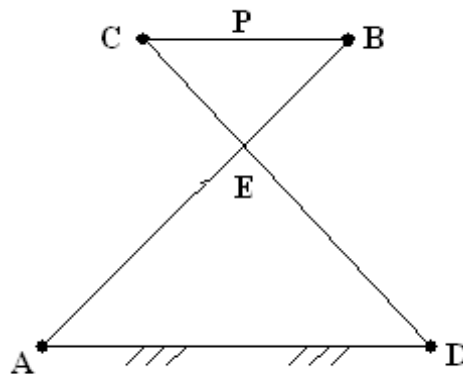

Figure 5
5. Show that for Tchebicheff's straight-line motion shown in figure 5, the point P that bisects the link BC will lie in a straight line parallel to AD. When it is directly above the midpoint of AD, if the proportions of the links are  $BC: AD: AB = 1:2:2.5$ . [15]